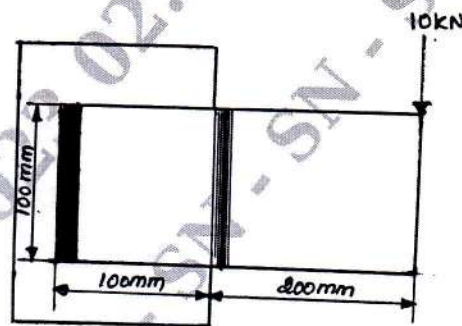

Fig Q8(b)
- b. A welded connection as shown in Fig Q8(b). If the allowable stress is  $100\text{N/mm}^2$ , determine the size of weld. (10 Marks)